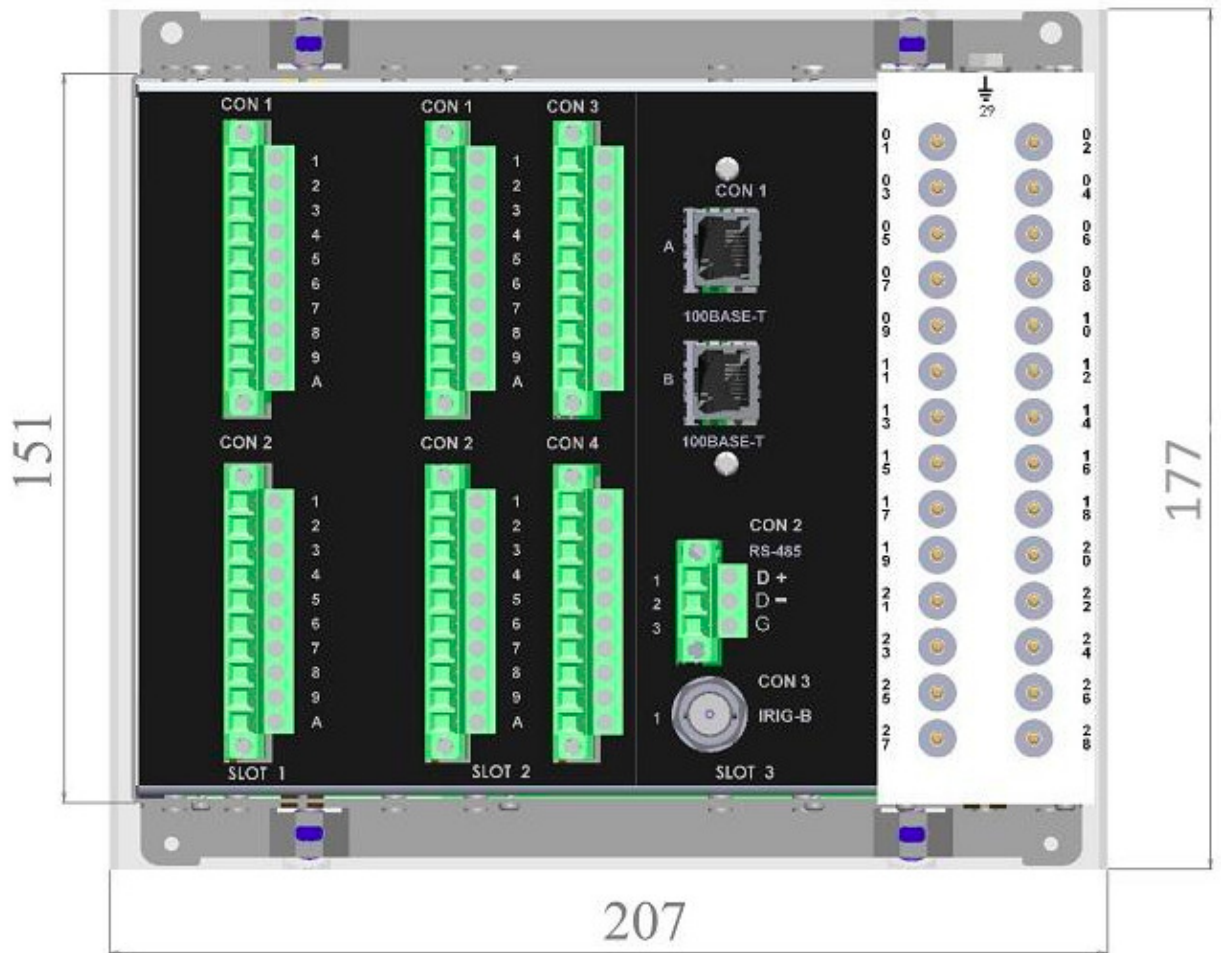

Figure 2 – F-PRO 298 Relay Rear View
1. Connect power supply to Slot 1, CON 2 #9/A, as shown in Figure 2. The wire used for the power supply wiring shall be at least 18 AWG (1.02 mm²), 600 V.